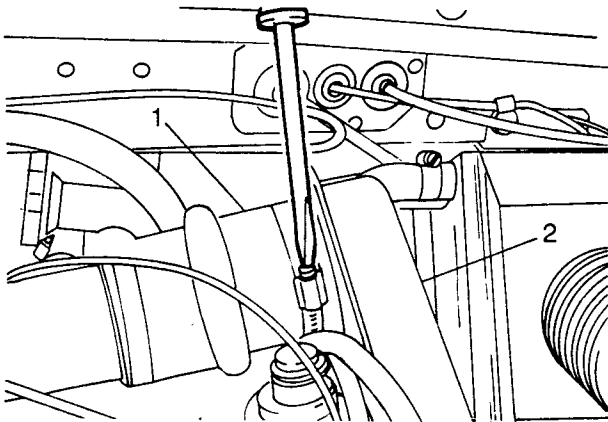

Fig B4.6
- (14) Refer to Fig B4.6. Remove the hose (1) between the air cleaner and the air intake box (2) over the carburetors.